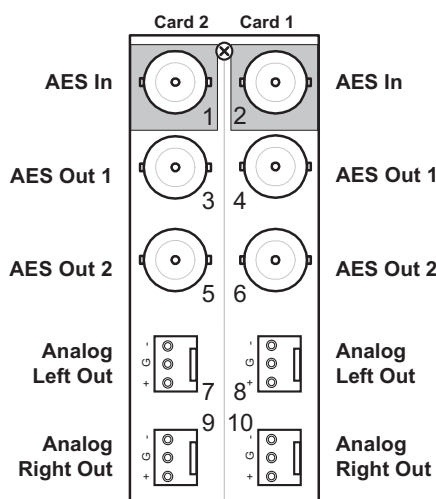

Figure 2.3 Cable Connections for the 8320AR-039 Rear Module
- **8320AR-039** Split Rear Module — Each card occupies one slot and provides four outputs. Note that each Split Rear Module provides connections for two cards. (**Figure 2.3**)